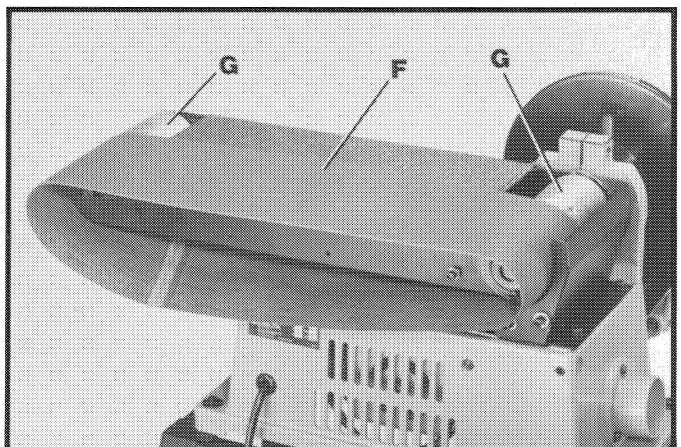

Fig. 43
5. Slide new 6" x 48" sanding belt (F) Fig. 43, over both sanding drums (G), making sure the belt (F) will travel in the direction of the arrow located on the inside of the belt.